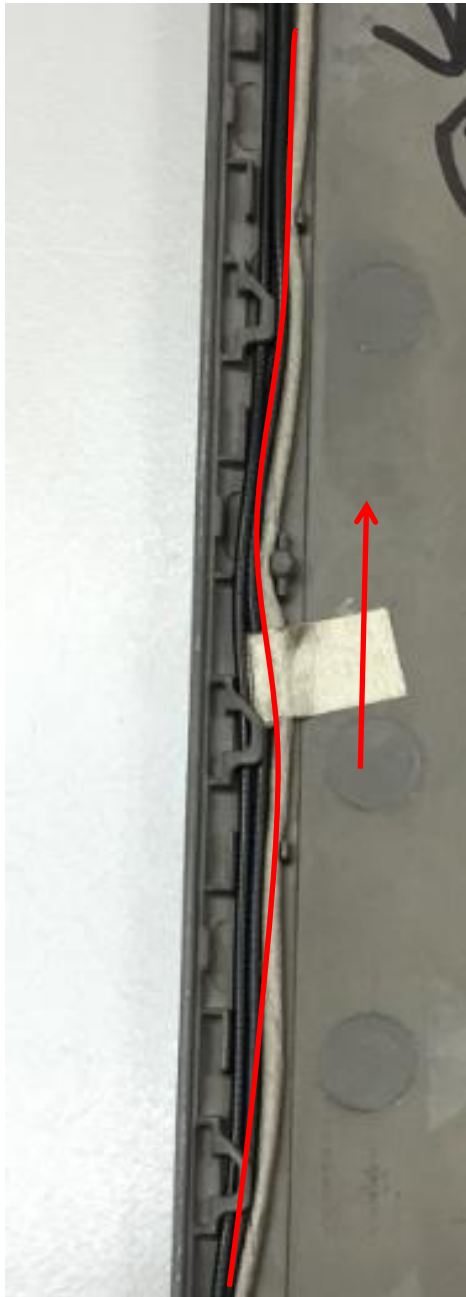

Fig.1
1. Disassemble antenna cable & camera cable from LCD cover.(Fig.1/Fig.2)